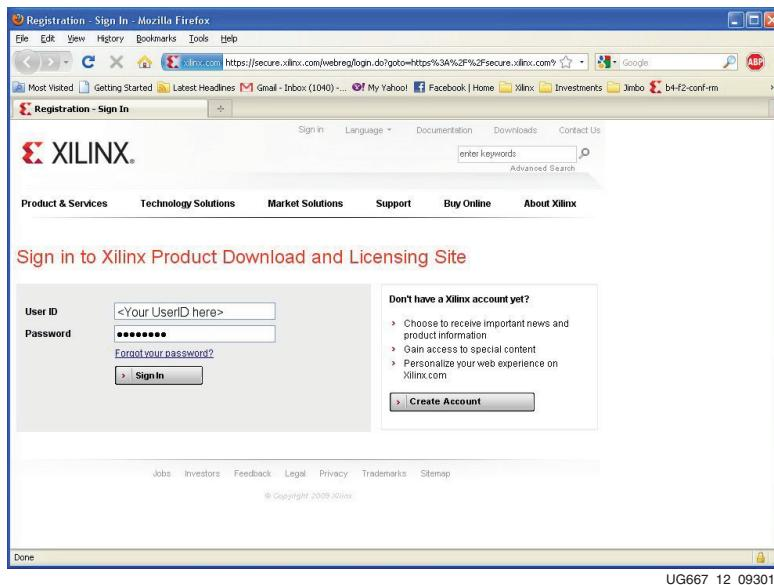

Figure 12: Sign In to Xilinx Product Download and Licensing Site
2. This launches your Web browser and takes you to the Xilinx product download and licensing site (Figure 12).